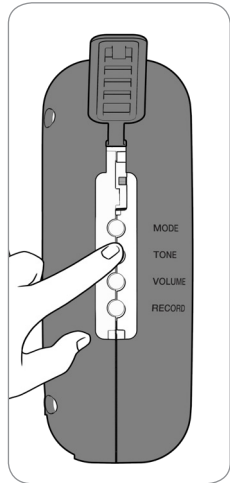

Fig. 6
2. Press TONE button on left side of fall monitor to scroll through the tone selections (Fig. 6).